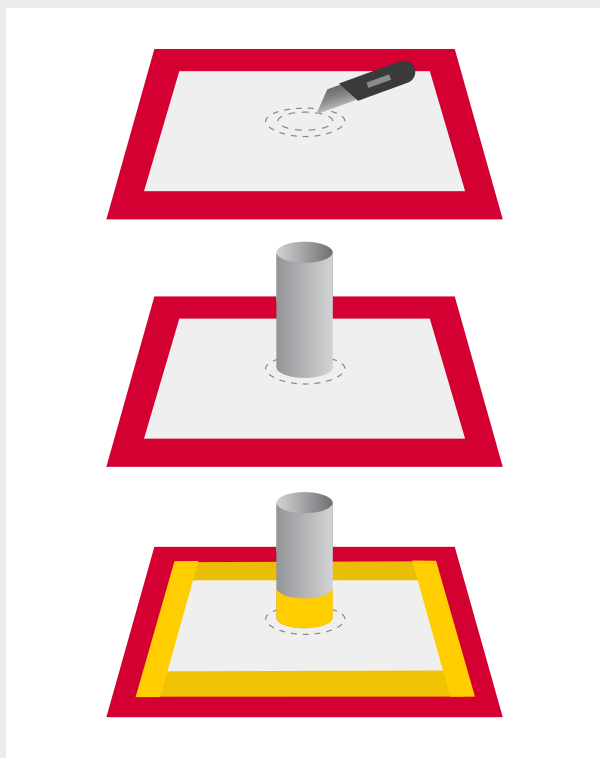
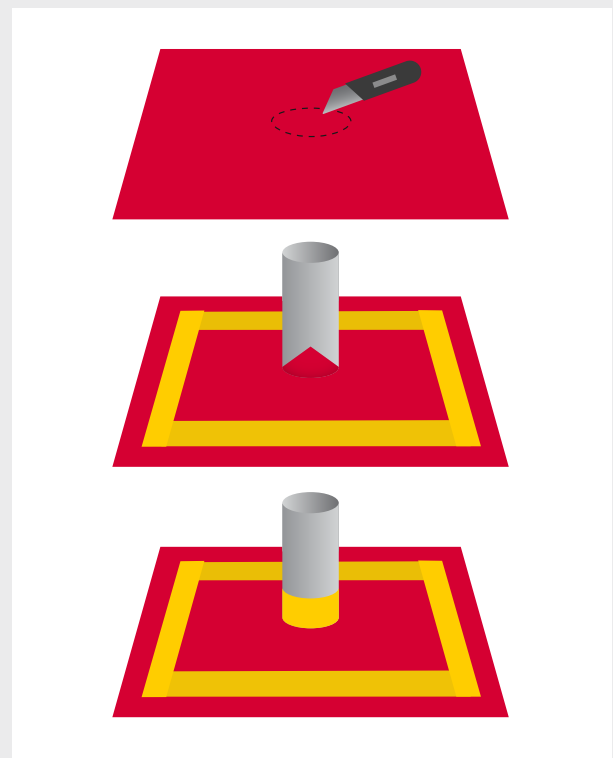

Figure 3: Method 1
Figure 4: Method 2
Pipes four inches or smaller can be sealed with VaporBoot Plus preformed pipe boots. VaporBoot Plus preformed pipe boots are formed in steps for 1", 2", 3", and 4" PVC pipe or IPS size and are sold in units of 12 per box (Fig. 3 & 5). Pipe boots may also be fabricated from excess VaporFlex® Premium membrane (Fig. 4 & 6) and sealed with VaporFlex® Premium Tape (sold separately).
To fabricate pipe boots from VaporFlex® Premium excess material (Fig. 4 & 6 for A–F):
- F) Complete the process by taping over the boot perimeter edge with VaporFlex® Premium Tape to create a monolithic membrane between the surface of the slab and gas/moisture sources below and at the slab perimeter. (Fig. 4 & 6)